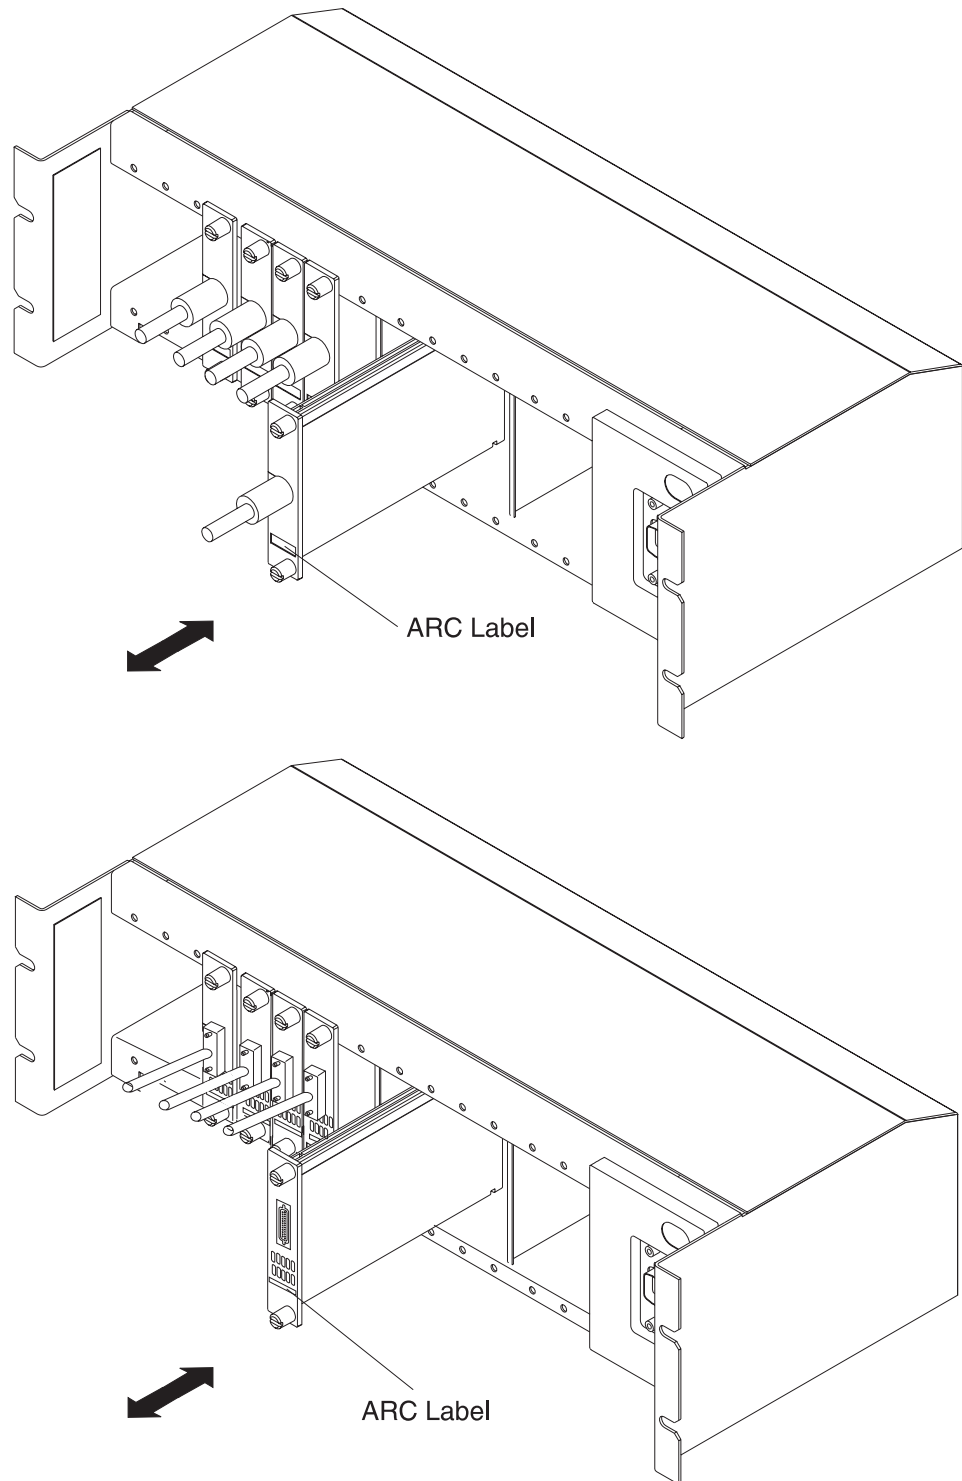

Figure C-13. ARC Assembly A (top) and ARC Assembly B (bottom) in an LCB
Step 7 Insert the ARC, pushing it until the front ARC touches the LCB, then tighten the two retaining screws (see Figure C-13 on page C-19).